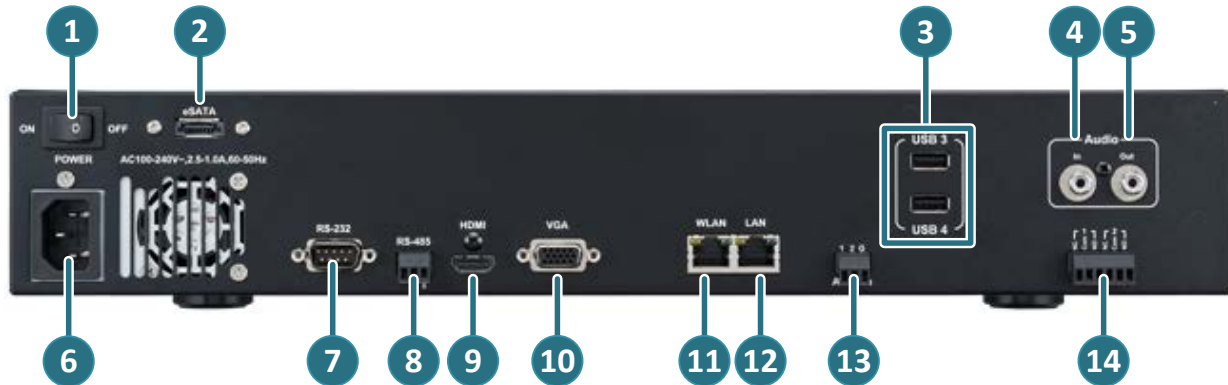

Figure 1-3
- EDA450 (eSATA Storage Device: connect to the eSATA port of the ENVR8304D-8CH). Please refer to No. 2, Figure 1-3.